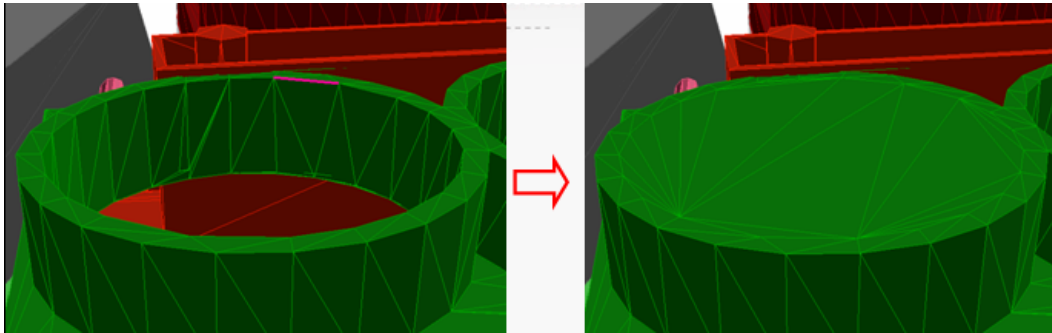

Figure 8.3.1: Hole Filling Using Edge
- Fixing holes by selecting edges (Figure 8.3.1).